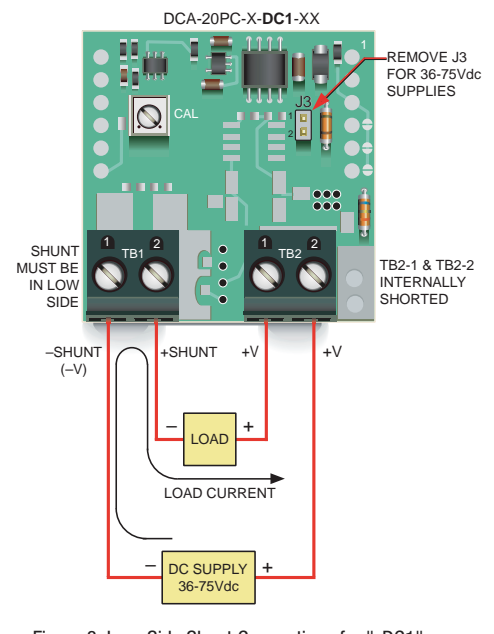

Figure 3. Low-Side Shunt Connections for "-DC1" Models Modified for 36-75Vdc Non-Isolated Power (See Technical Note 6)
6. Operation With 36 to 75Vdc Power: As shipped, all ‘-DC1’ models’ rated operating supply range is +5 to +40Vdc. However, ‘-DC1’ models can be user configured for 36 to 75Vdc operation by removing (opening) jumper J3. Please note that this modification can only be performed on ‘-DC1’ power models. Also, all ‘-DC1’ models – including those that have been modified for 36-75Vdc operation – can only be connected in low-side, grounded-shunt applications. See Figure 3 for